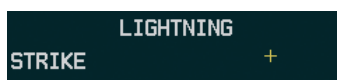

Figure 6-19 SiriusXM Lightning Legend
- 1) Press the **MAP** Softkey (for the PFD Inset Map, press the **INSET** Softkey). This step is not necessary on the Weather Data Link (XM) Page.
To display the SiriusXM Lightning legend on the Weather Data Link (XM) Page (Figure 6-19), press the **LEGEND** Softkey when SiriusXM Lightning is selected for display.